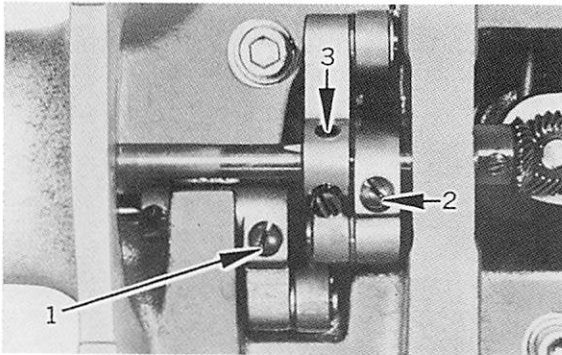
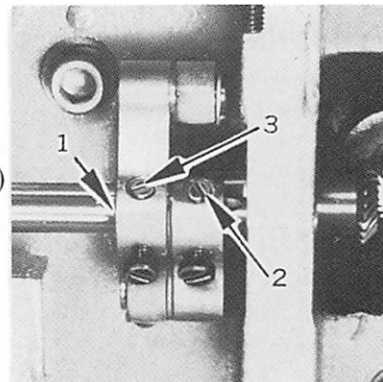

Fig. 14 LSC-8B-1, 8BL-1
Fig. 16 LSC-8BV-1, 8BLV-1
2. Loosen the set screw (1, Fig. 14)
1. Lay down the machine head toward the other side, and check that the screw (2, Fig. 16) is securely tightened on the V ditch (1, Fig. 16).
1. Lay down the machine head toward the other side, and loosen the screw (2, Fig. 14)
1. Lay down the machine head toward the other side, and check the screw (3, Fig. 14, Fig. 16) is securely tightened on the V ditch (1, Fig. 16).